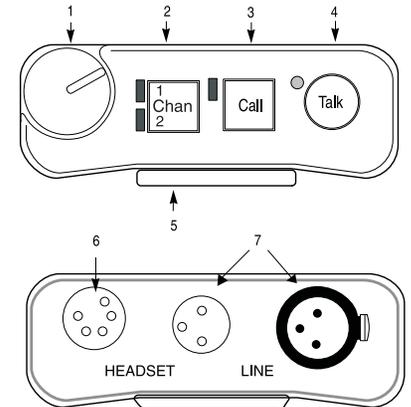
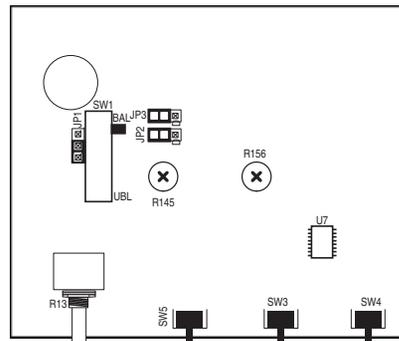

Figure 1 - Reference View
Figure 2. Internal Jumpers and Switches
- A loop-through connection connects several backpacks in a chain. Since this is often the preferred method of connection, a line loop connector has been added to new units. See Figure 1).
NOTE: The numbers refer to the callouts in Figure 1.
There are several internal switches, jumpers and adjustments that affect operation. These are described below. To gain access to the switches, jumpers, and adjustments, disconnect all power and line connections. Remove two screws from the top of each side of the case and two screws from the bottom of each side of the case. The jumper and switch locations are shown in Figure 2.
The side tone adjustment is accessible either internally (see Figure 2) or by removing the belt clip mounting screw shown in Figure 1.
See Figure 2.